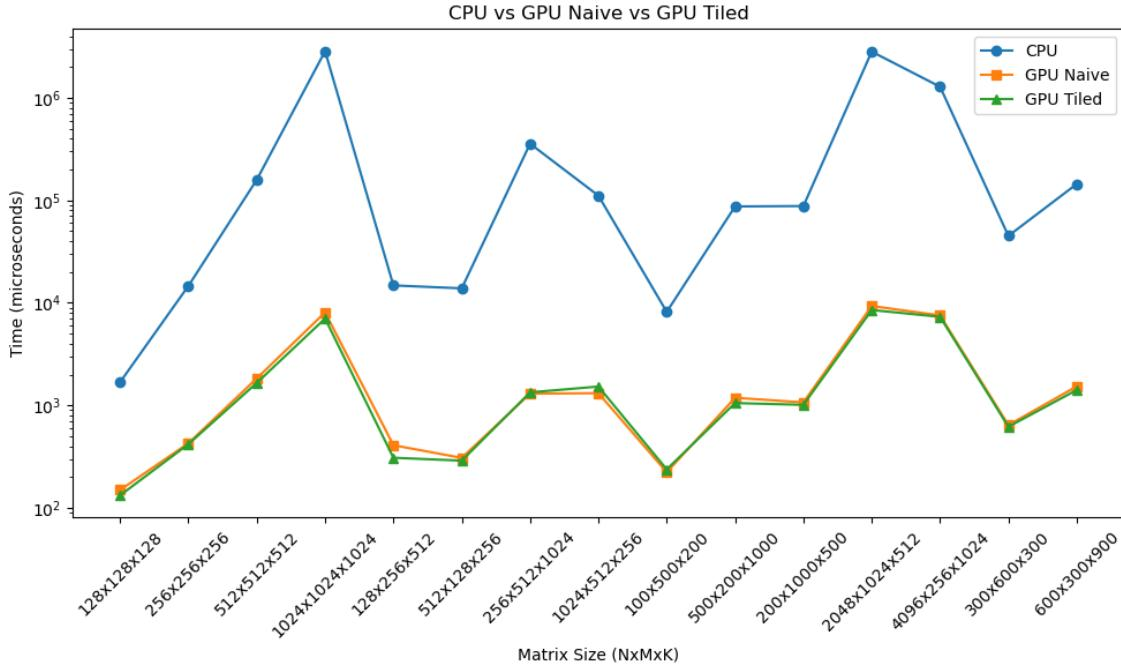

Figure 1: Matrix size vs Execution time (log scale).
- **Observations:** As shown in Figure 1, the GPU-Tiled implementation outperforms the GPU-Naïve implementation, especially on larger matrices, by minimizing redundant global memory fetches.
¹Note: The graph generated (Figure 1) combines the performance results of the Tiled GPU implementation from Task 5 alongside the CPU and GPU-Naïve results for direct comparison.